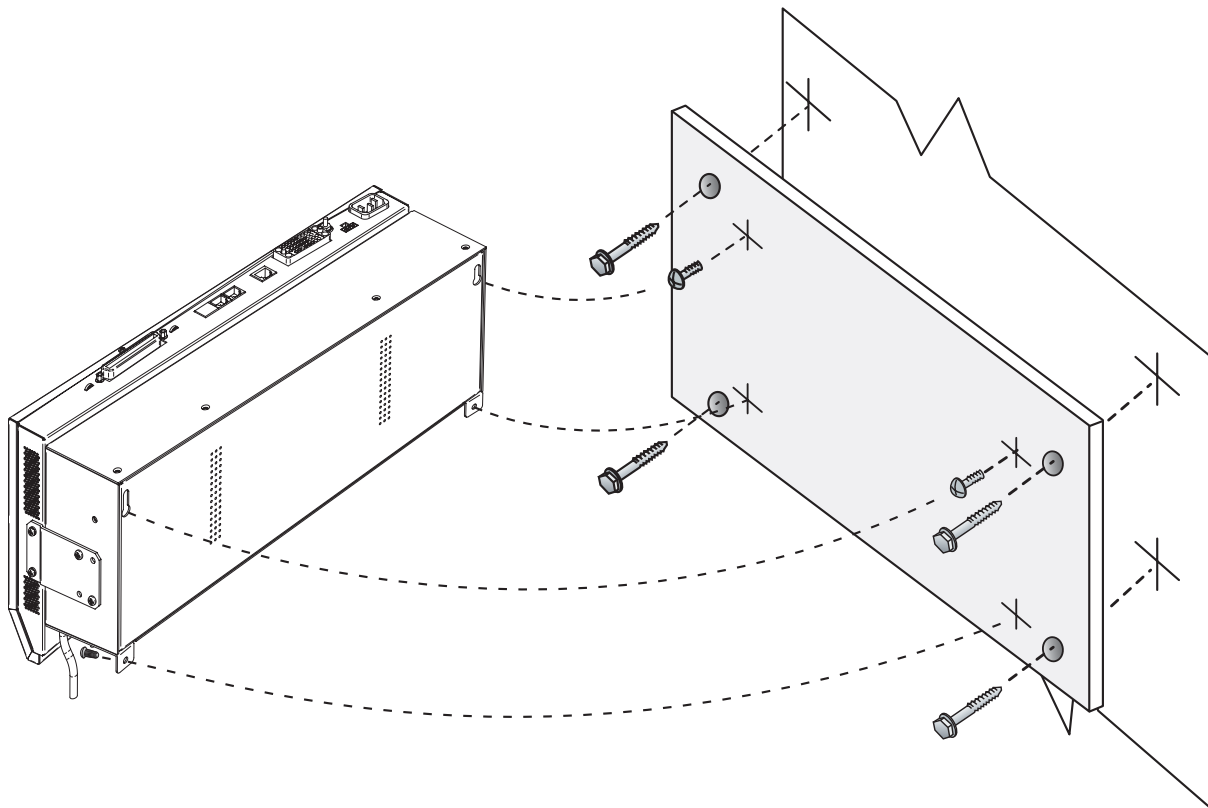

Figure 2. Wallmounting the BBU System
1. Use the special mounting brackets (and provided screws) to connect the Total Access 612/616/624 unit to the front of the BBU. The Total Access 612/616/624 should be mounted to the front of the BBU with the LEDs pointing down to the bottom of the BBU (see Figure 2).
3. Prepare the mounting surface by attaching a board (typically plywood, 3/4" to 1" thick) to a wall stud (see Figure 2).
4. Using the provided mounting template (61175044L1-19) as a guide, mark the locations of the four screws that will hold the BBU system (see Figure 2).
6. Screw in the top two pan-head screws that fit the keyhole openings. Let the head of the screw protrude 0.07" from the plywood (about the thickness of a nickel) to engage the keyhole slot (see Figure 2).
8. Insert the two lower screws through the tabs and tighten securely (see Figure 2).